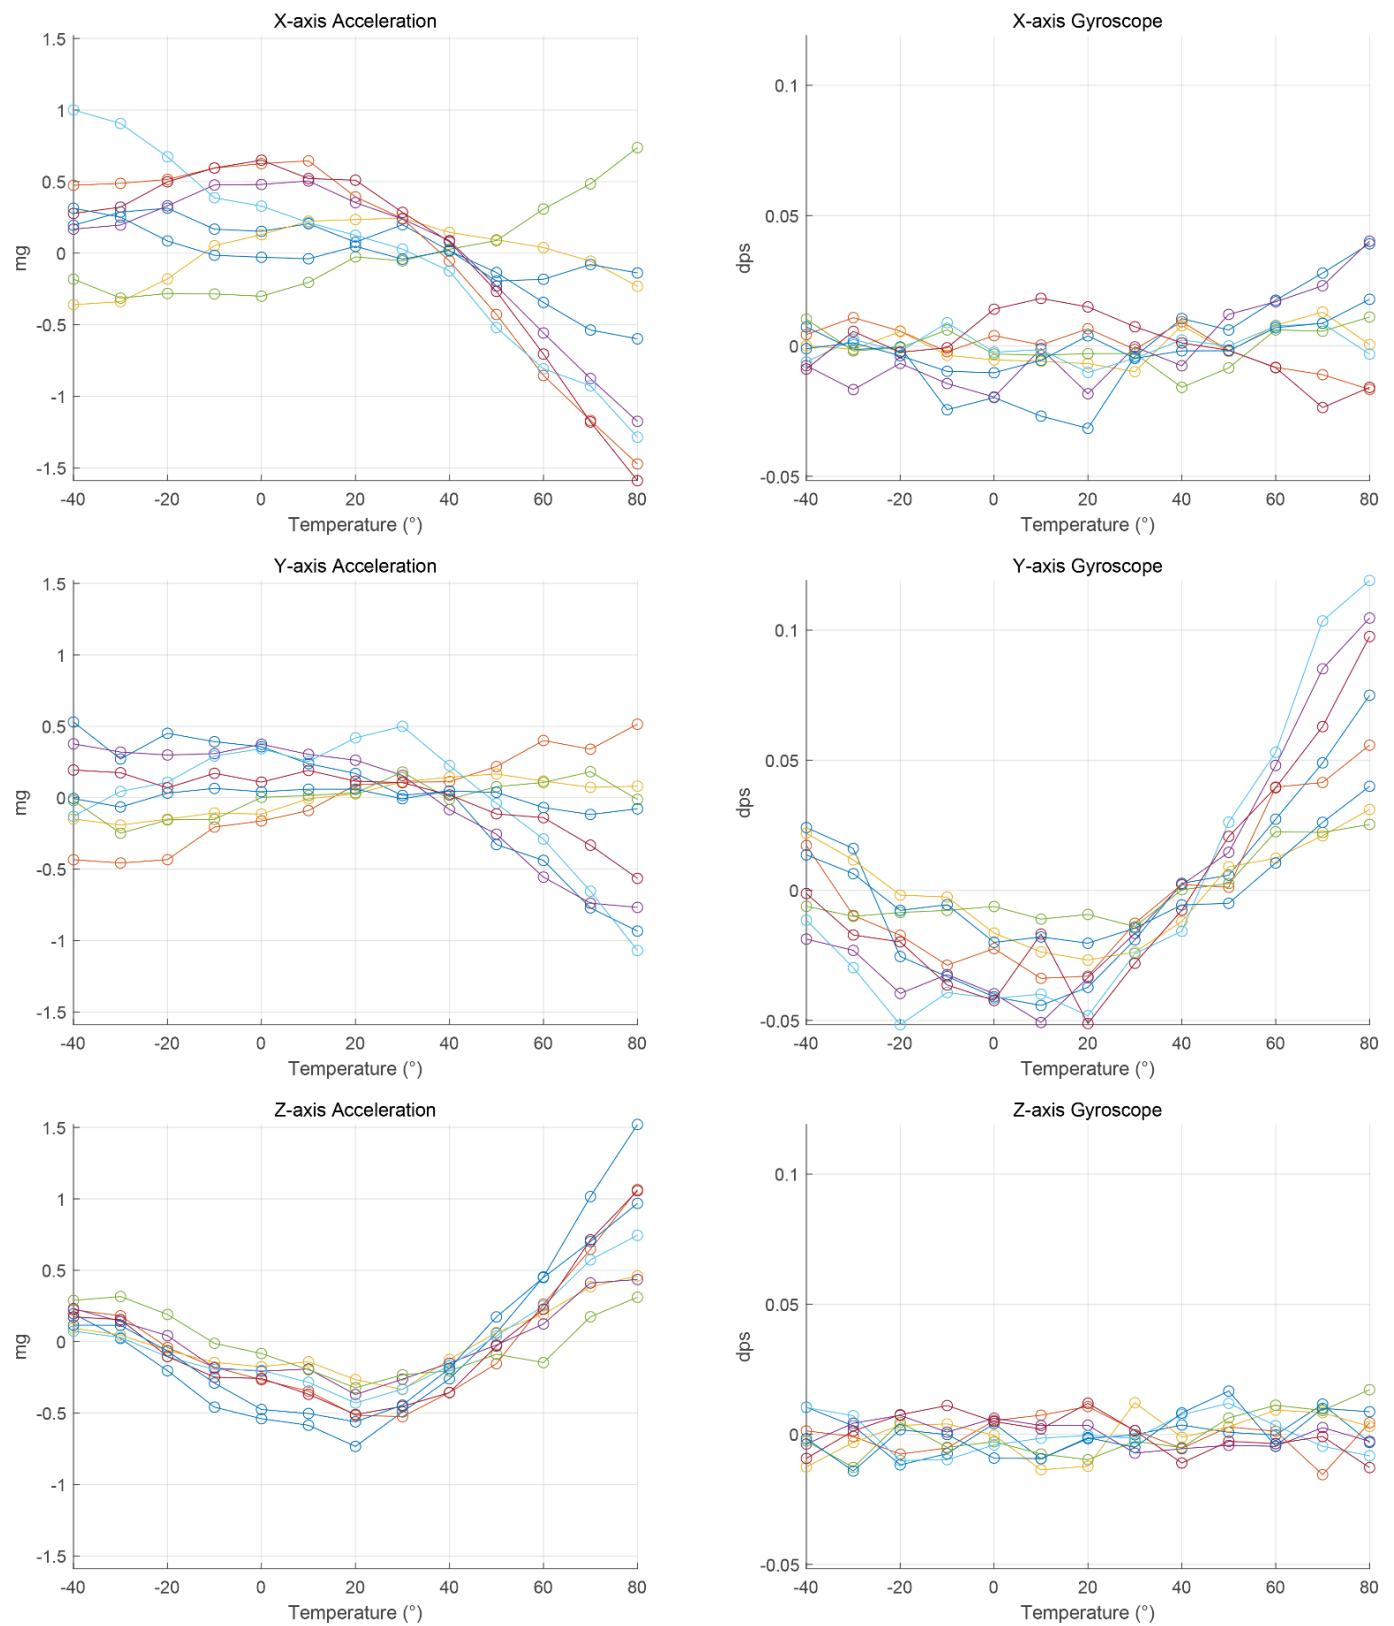

Figure7: Accelerometer and Gyroscope Temperature Compensated Curve
**Note4:** Measured using the rate table in the Hipnuc laboratory temperature chamber, with a temperature rise rate of less than 3°C/min. Detailed data can be found in Figure 7 temperature compensation curve.
**Note3:** Note4: Measured using the rate table in the Hipnuc laboratory temperature chamber, with a temperature rise rate of less than 3°C/min. Detailed data can be found in Figure 7 temperature compensation curve